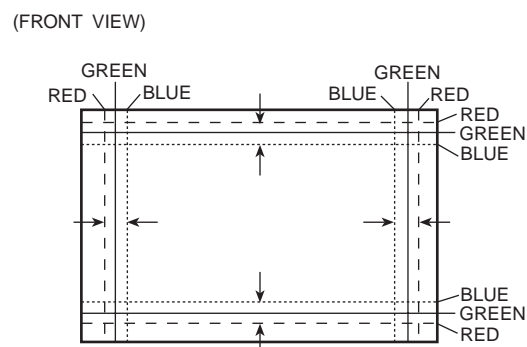

Fig. 3
7. Adjust the gap between two lugs so that the green raster will come into the center of the screen. (See Fig. 3.)
2. Move the deflection yoke left to right and overlap the lines in the periphery. (Fig. 3)